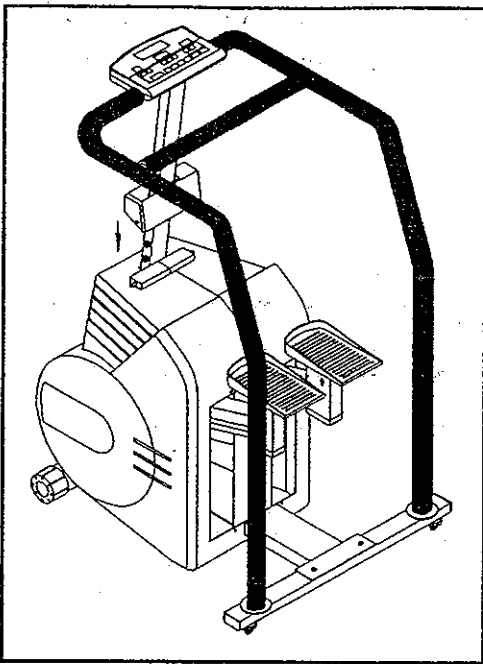

Fig. 23
9. Replace the post shroud, secure with two screws (see Fig. 23. & 24).